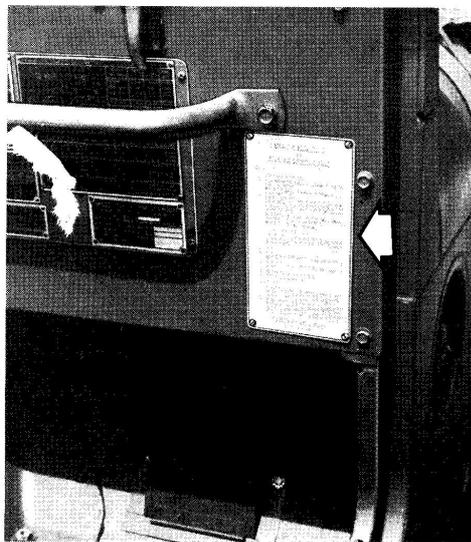

Fig. 30. Instruction plate installed.
- b. Mount the instruction plate to the dash panel, Fig. 30.